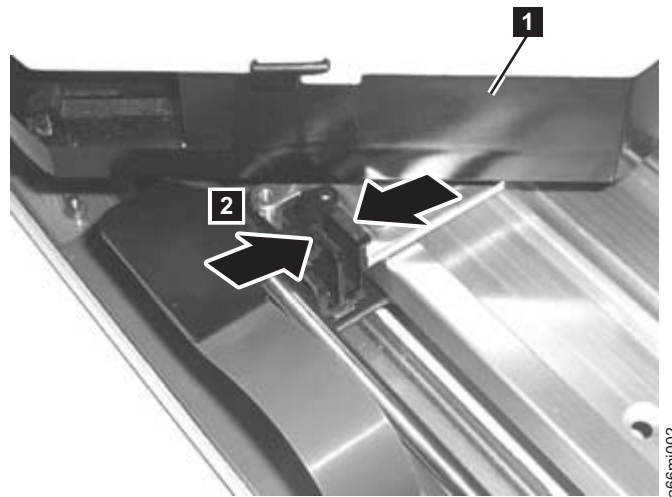

Figure 8-52. Flat cable connector
5. Facing the library, rotate the Picker Assembly until the front of the Picker Assembly is oriented approximately 45 degrees right of center, as seen from the top of the library, to access the flat cable connector (**1** in Figure 8-52).
6. Pinch the top of the connector (**2** in Figure 8-52) and lift up to disconnect it.
3. Facing the library, rotate the Picker until the front of the Picker Assembly is oriented approximately 45 degrees right of center, as seen from the top of the library, to access the flat cable connector (**1** in Figure 8-52 on page 8-53).
4. Pinch the top of the connector (**2** in Figure 8-52 on page 8-53) and connect it.
4. Rotate the Picker Assembly with the grippers pointing toward 11 o’clock (**1** in Figure 8-52 on page 8-53) to expose the flat cable connector.
5. Pinch the top of the connector (**2** in Figure 8-52 on page 8-53) and lift up to disconnect it.
4. Rotate the Picker Assembly with the grippers pointing toward 11 o'clock (**1** in Figure 8-52 on page 8-53) to expose the flat cable connector.
5. Plug in the connector (**2** in Figure 8-52 on page 8-53).